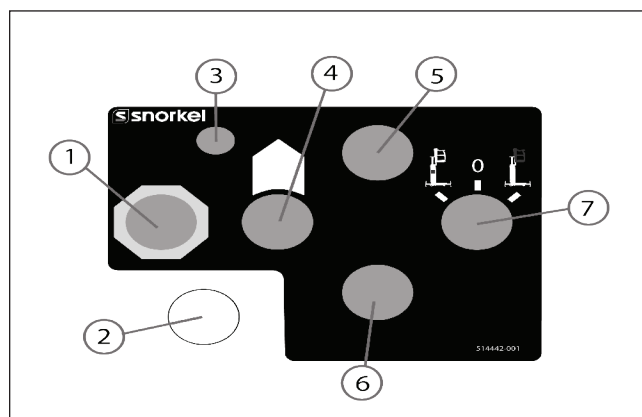

Figure 9.2 – Lower Control Station AC Models
4. From the upper controls, twist and pull the emergency stop button outward (refer to Figure 9.2).